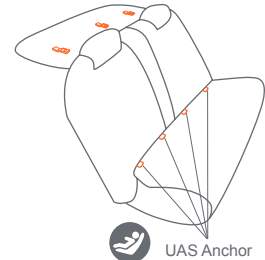
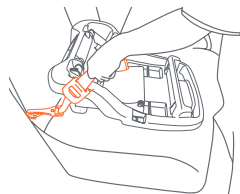

Fig. 54-2
Fig. 55-2
5. Locate the **UAS** anchors in the vehicle seat (Fig. 54-2). Once located, snap the Safety Seat **UAS** connectors onto the steel rod. Listen for the click and check that both connectors are firmly attached to the anchor rods by pulling outward on the connectors (Fig. 55-2).
6. Proper installation of the Base requires that the **UAS** webbing be very tight. To tighten the webbing, push down hard with your knee or hand on the Base while pulling upward on each webbing end. The webbing will automatically lock in place. **Check that there is no slack in the webbing on both sides of the base and that the base is tightly installed** (Fig. 55-2 and 55-3).